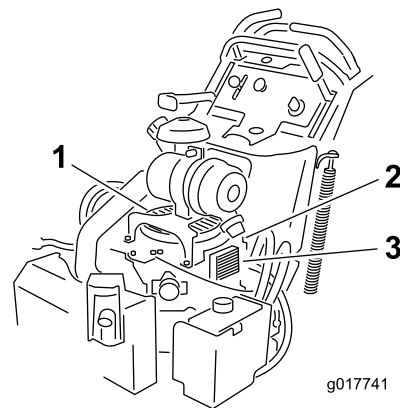

Figure 68
3. Remove the air-intake screen and fan housing (Figure 68).
5. Install the air-intake screen, the recoil starter, and the fan housing (Figure 68).
2. Remove the bolts holding the oil cooler to the engine housing (Figure 68).